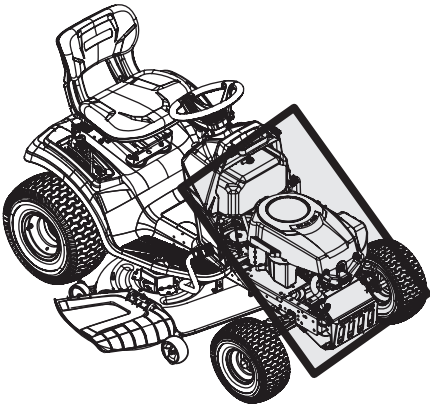

Fig. 32
- Clean under the hood, including exhaust manifold, around fuses, all wiring and harnesses, muffler pipe, muffler shield, engine intake screens and cooling fins, etc (Fig. 32).